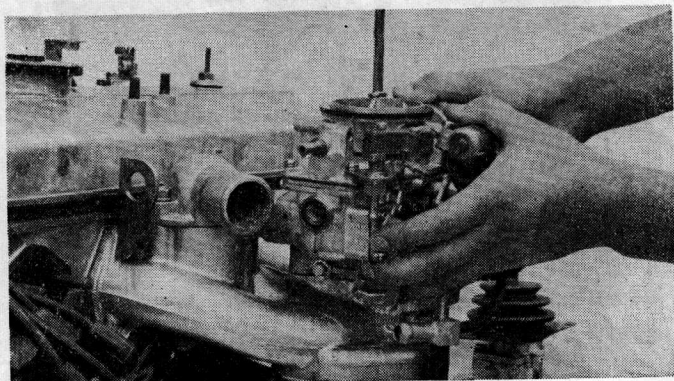

Fig. 18 Removing the Carburetor
(15) Pull off the water hose and remove the carburetor assembly. (Fig. 18)